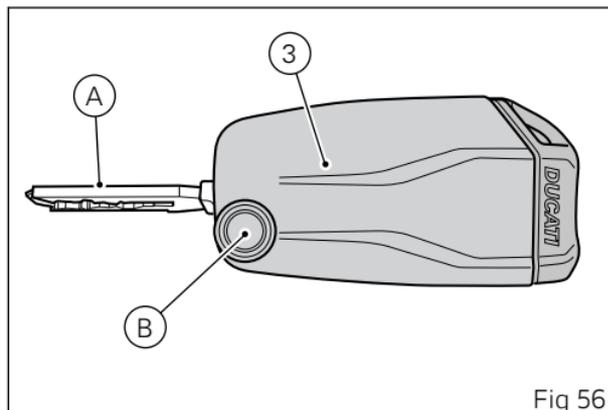

Fig 56
Key-On can be performed by pressing button (7) on the handlebar and with the presence of the active key (3, Fig 56).
Key-Off can be performed by pressing the button (7) on the handlebar. It can also be performed without the key (3, Fig 56) only if motorcycle speed is equal to zero.
Key-On can be performed by pressing button (1) on the Hands free unit and with the presence of the active key (3, Fig 56).
Key-Off can be performed by pressing button (1) on the Hands free unit and also without the key (3, Fig 56).